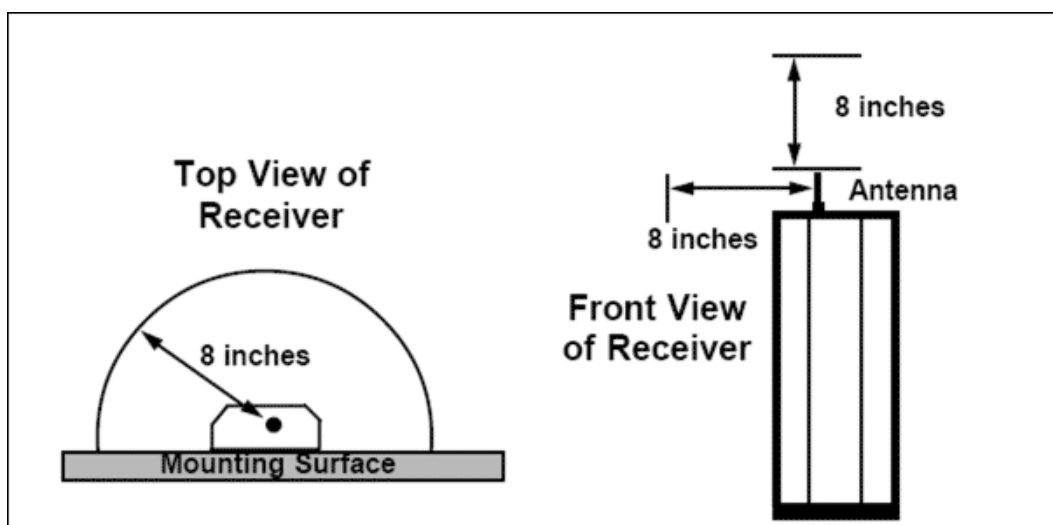

Figure 4. Antenna Clearance
- For optimum performance, the antenna itself should have a minimum of eight (8) inches of clearance in all directions, excluding the wall or plate to which the receiver enclosure is mounted (see Figure 4). If the receiver enclosure location cannot provide this clearance and the antenna must be mounted at a remote location, the Remtron Remote Antenna Mounting Kit should be used. Call your Remtron dealer for information.